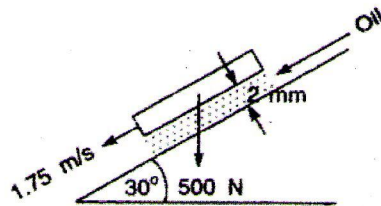

Fig. 1.5.
1.7 A rectangular plate of  $0.50 \text{ m} \times 0.50 \text{ m}$  dimensions weighing  $500 \text{ N}$  slides down an inclined plane making  $30^\circ$  angle with horizontal, at a velocity of  $1.75 \text{ m/s}$ . If the  $2 \text{ mm}$  gap between the plate and inclined surface is filled with a lubricating oil, find its viscosity and express it in poise as well as in  $\text{N s/m}^2$  (Fig. 1.5).